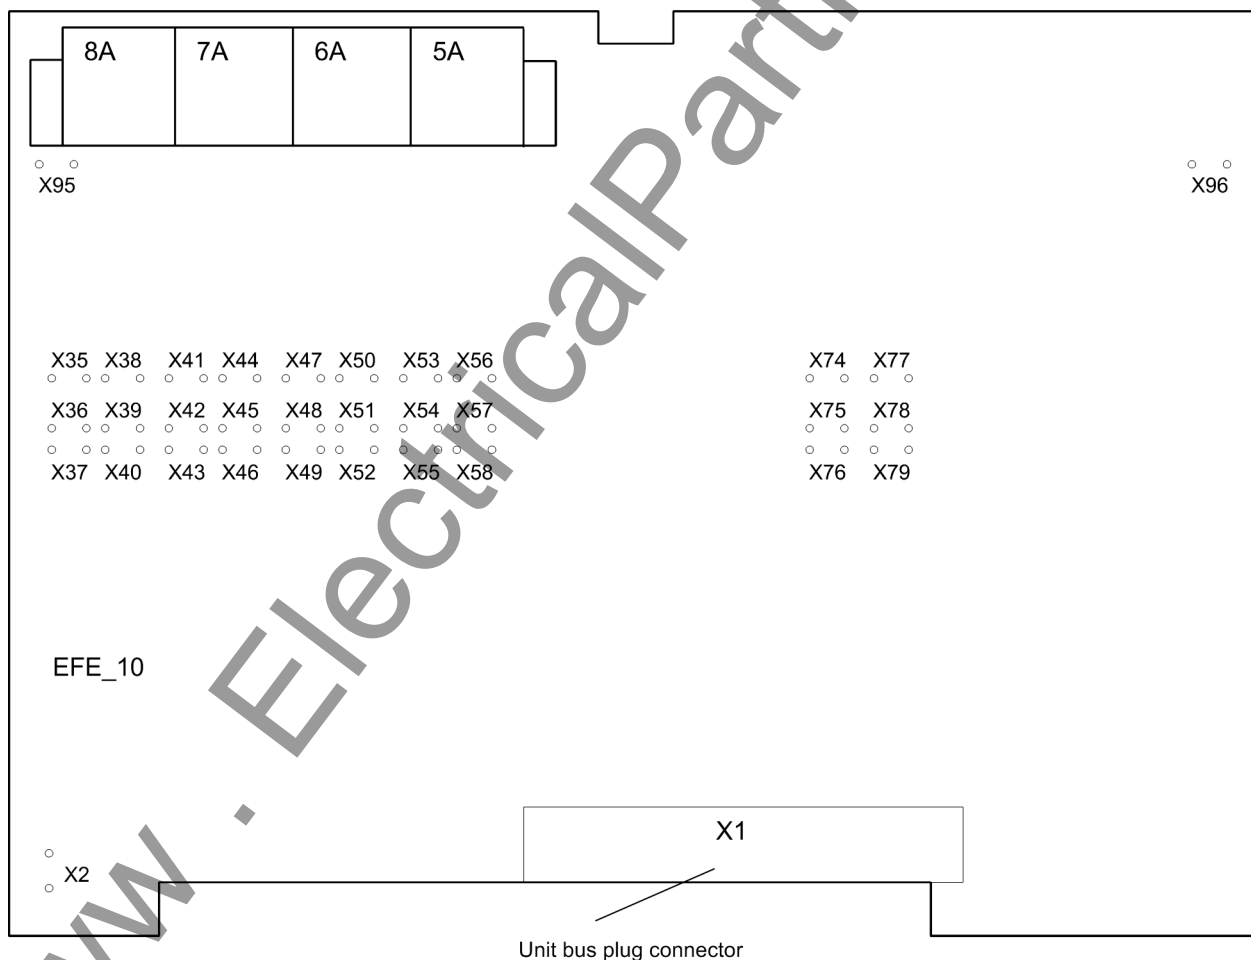

Figure 3-4 Location of the jumpers on the EFE_10 module (bay unit 7SS525)
- ❑ Remove the plug connector X1 to the front plate on the EFE_10 module (Figure 3-4, page 36) and pull out the module.
- ❑ Change the rated control voltages of the binary inputs to the desired settings, see Figure 3-4, page 36 and Table 3-4, page 37.